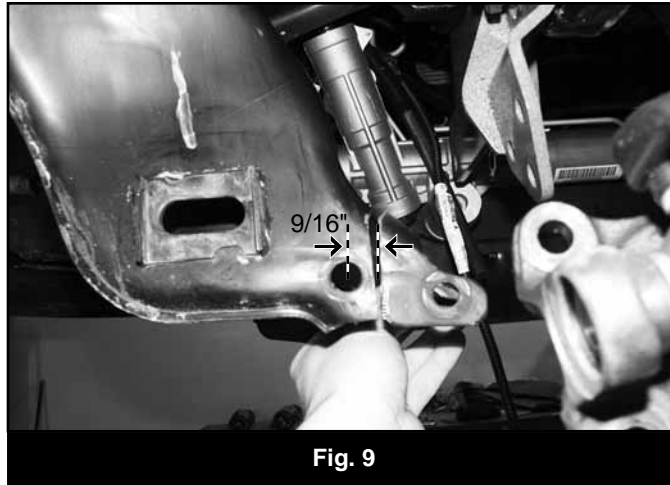

Fig. 9
37. The driver's side rear lower control arm pocket must be trimmed to provide clearance for the differential in its lowered position. Measure inward from the center of the outer OE crossmember mounting hole 9/16" and mark. Repeat on the opposite side of the pocket. Make a continuous line connecting the two marks over the top edge of the pocket. Trim the pocket on the line with a saw-zall or cut off wheel. Paint any exposed metal to prevent corrosion (Fig 9).